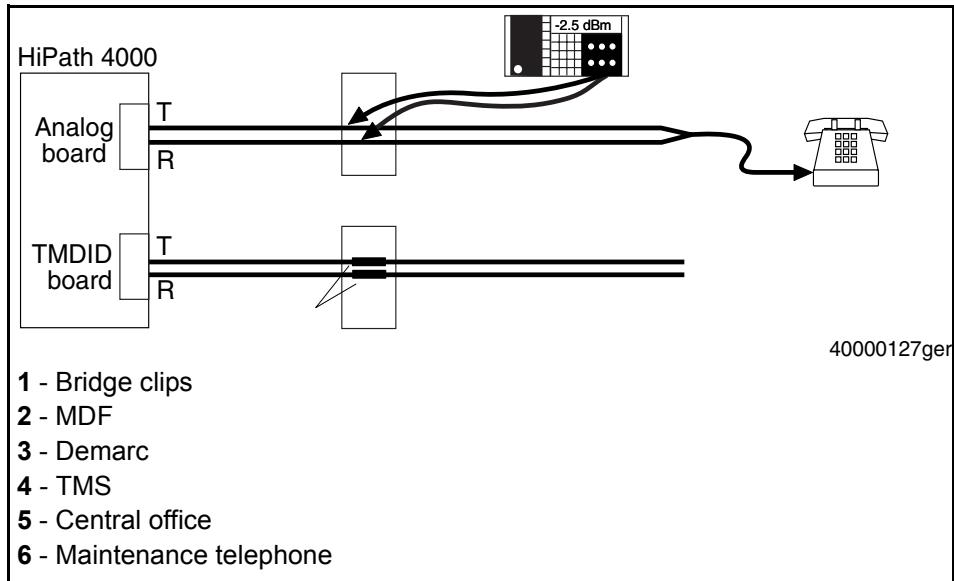

Figure 2
4. Connect the TMS to the maintenance telephone port (Figure 2).